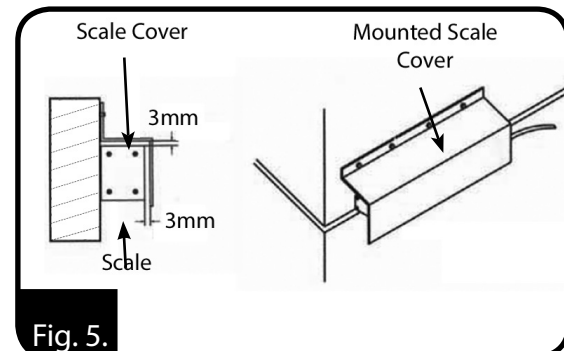

Fig. 5.
- A clearance of at least 3.0mm between the scale and scale cover should be maintained. (Fig. 5)